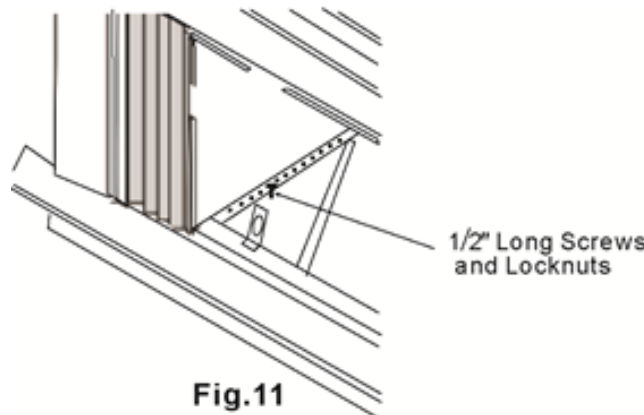

Fig.11
2. Install the support brackets (with the sill angle brackets attached) to the correct holes in the bottom of the cabinet as shown below in Figure 11.